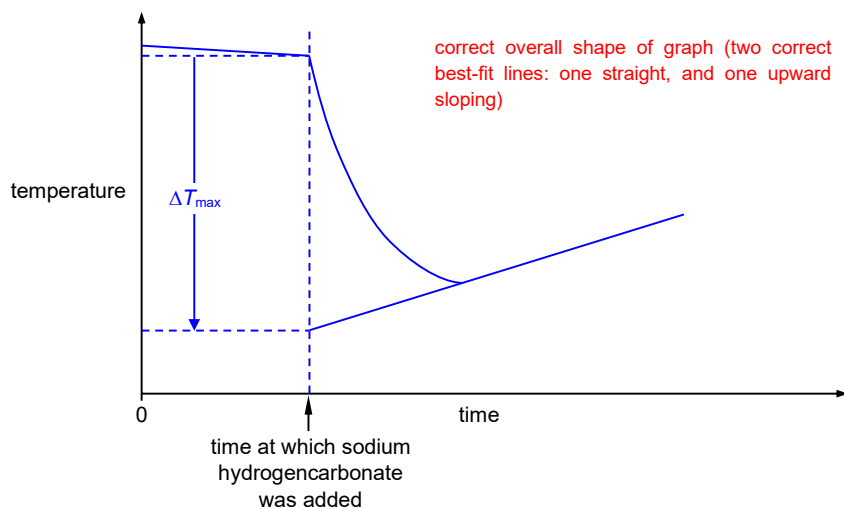

Figure 4.1
(1) used 2 Styrofoam cups (2) cups are in a beaker (3) used a lid for the cup [6]
- (c) (i) Sketch, on Figure 4.1, the graph you would expect to obtain using the measurements you planned to make in 4(b).